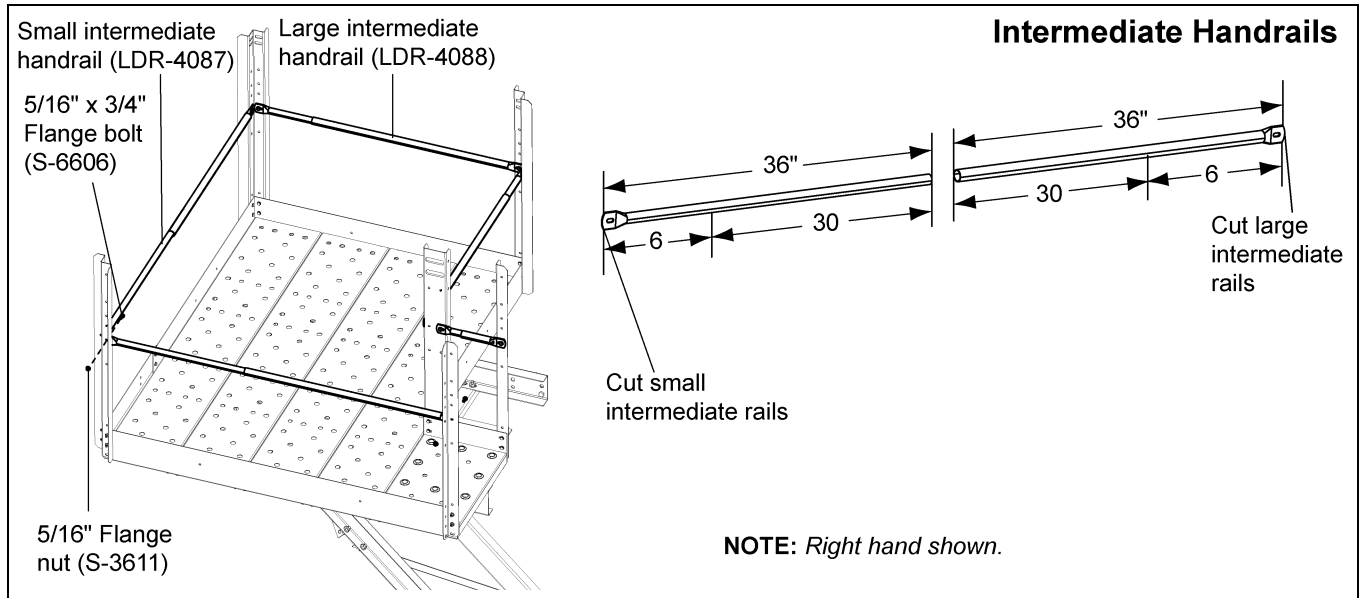

Figure 12I
1. Insert small intermediate handrail into the large intermediate handrails to create telescoping rails. Cut 30" off one small intermediate and one large intermediate rail to fit at entrance. Adjust all rails to the proper length and install to the posts using the 5th hole down from the top. Fasten in place using two (2) 5/16" x 3/4" flange bolts and nuts per each telescoping tube. (See Figure 12I.)